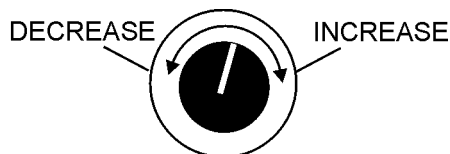

Figure 33. Voltage Adjust Control Knob
10. If the voltage is not within the specified tolerance, use the voltage adjustment control knob (Figure 33) to increase or decrease the desired voltage.